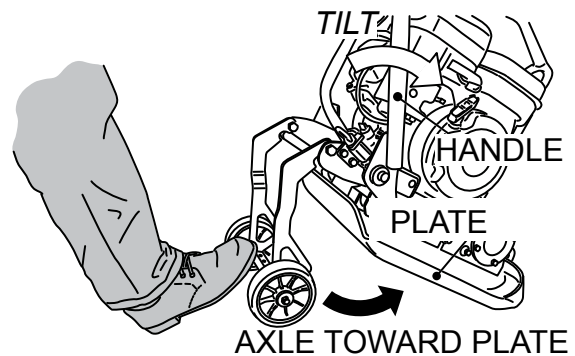

Figure 10. Deploying Axle
5. Push the handle forward to lift up the rear of the compactor from the ground. Place foot on top of axle bar and slide the axle under the plate (Figure 10).